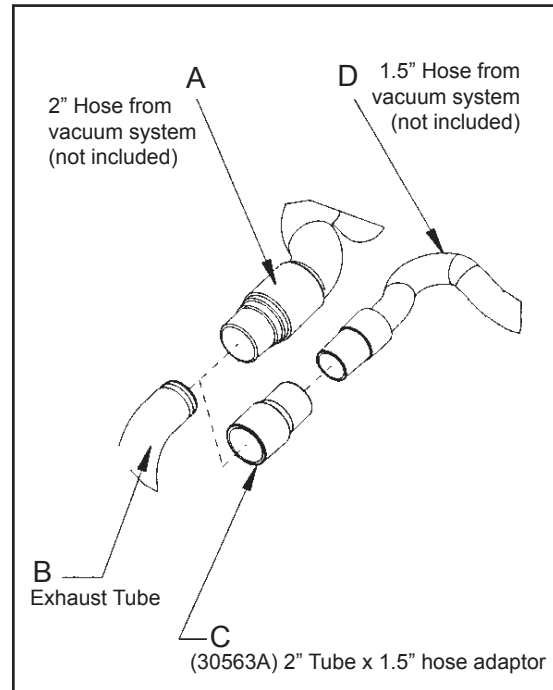

Figure 1
1. Install 2" hose end (figure 1, A) directly over the exhaust tube (figure 1, B).
1. Install the 2" x 1½" hose end adaptor (Part No. 30563A) (figure 1, C) over the exhaust tube (figure 1, B).
2. Insert 1½" hose end (figure 1, D) into the adaptor (figure 1, C).